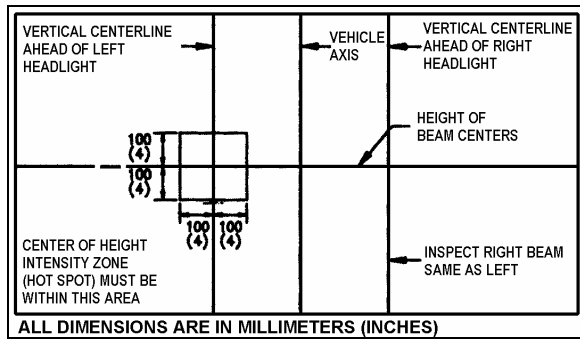

FIGURE 34: AIM INSPECTION LIMITS FOR UPPER-BEAM HEADLIGHTS
7. The inspection limits for high-beam headlights shall be with the center of the high-intensity zone from 10 cm (4 in) up to 10 cm (4 in) down; and, from 10 cm (4 in) left to 10 cm (4 in) right on a screen at 7.6 m (25 ft) (Fig.34).